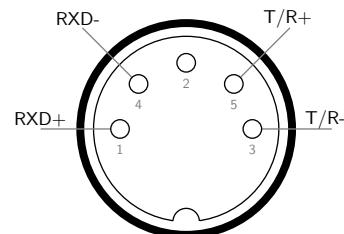

Figure 1.2: DIN-5 male connector (solder side).
1. To minimise the number of connections that need to be soldered, a MIDI cable may be used. Alternatively, solder the pins of a male DIN-5 connector as shown in Figure 1.2. Note that the pin numbers shown in the diagram are for the solder side of the connector. Also note that the DIN-5 connector pins are not numbered sequentially.